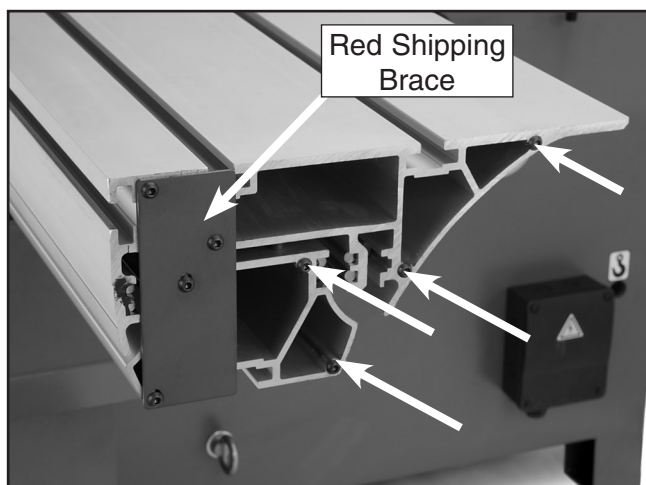

Figure 39. Sliding table.
1. Remove the red shipping brace (**Figure 39**) and the screws indicated. Set the screws aside for use in the following steps.